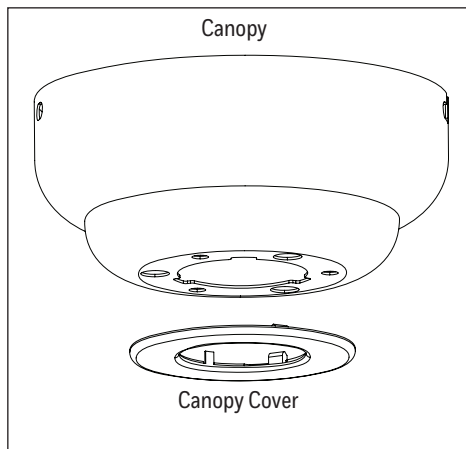

Figure 4.1
1. Remove the canopy cover from the bottom of the canopy (Figure 4.1).